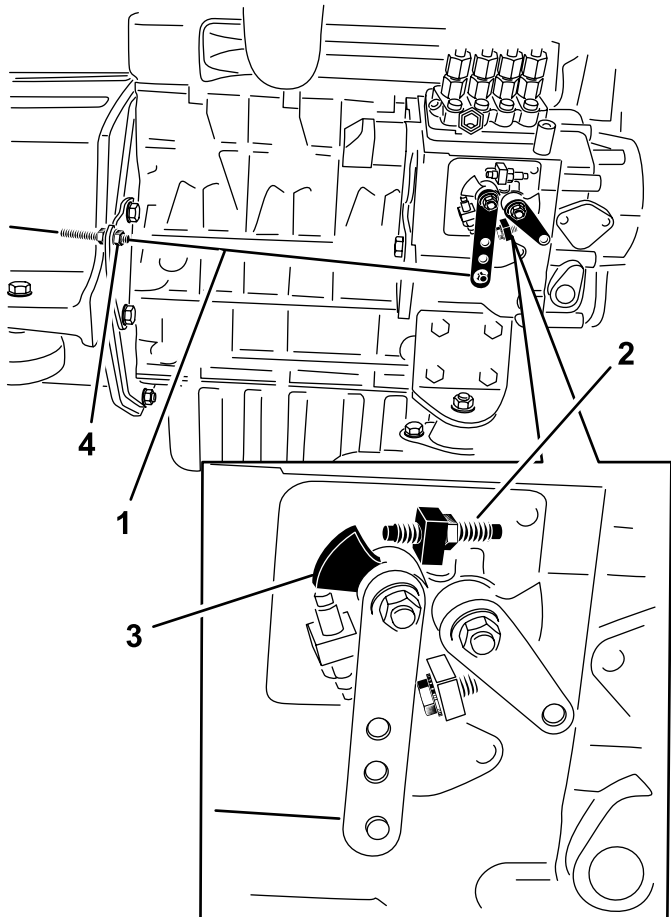

Figure 34
2. Check the position of the speed control lever on the fuel-injection pump. The speed-control lever should contact the high-speed screw when the throttle-control lever is in the FAST (detent) position (Figure 34).
3. If necessary, adjust the position of the jam nuts on the throttle-control cable until the speed-control lever contacts the high-speed screw when the throttle-control lever is in the FAST (detent) position (Figure 34).